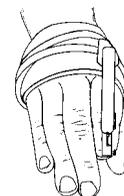

Fig. 9
4. Reattach the Hook and Loop Tab to the Cuff directly over the involved finger (Fig. 9).